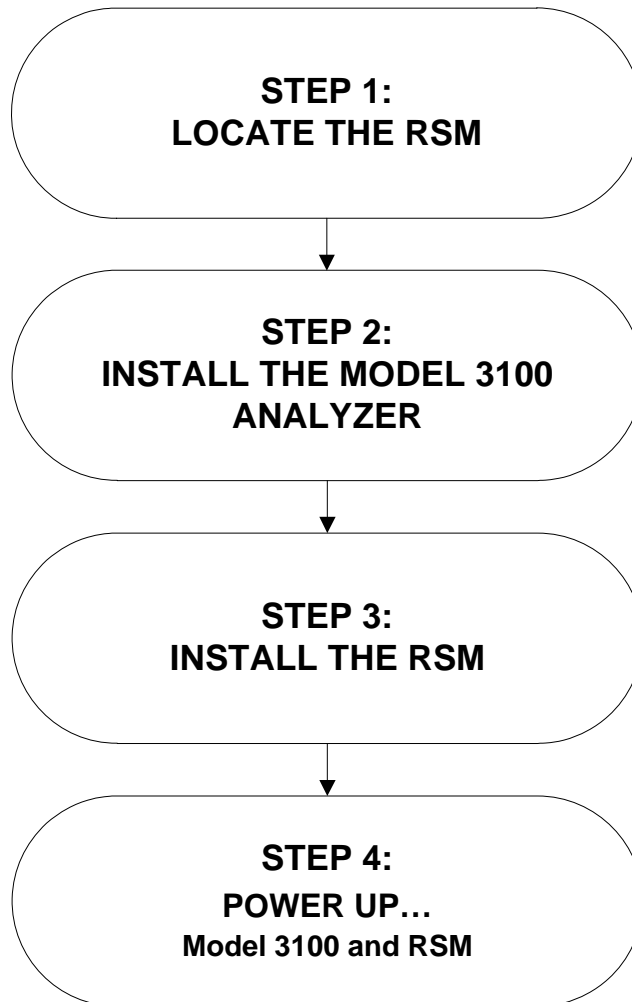

Figure 6 – Installation outline
Installation of the RSM chassis requires four (4) clearance holes for the #8-32 threaded screws. Dimensions in figure 6 are in inches.